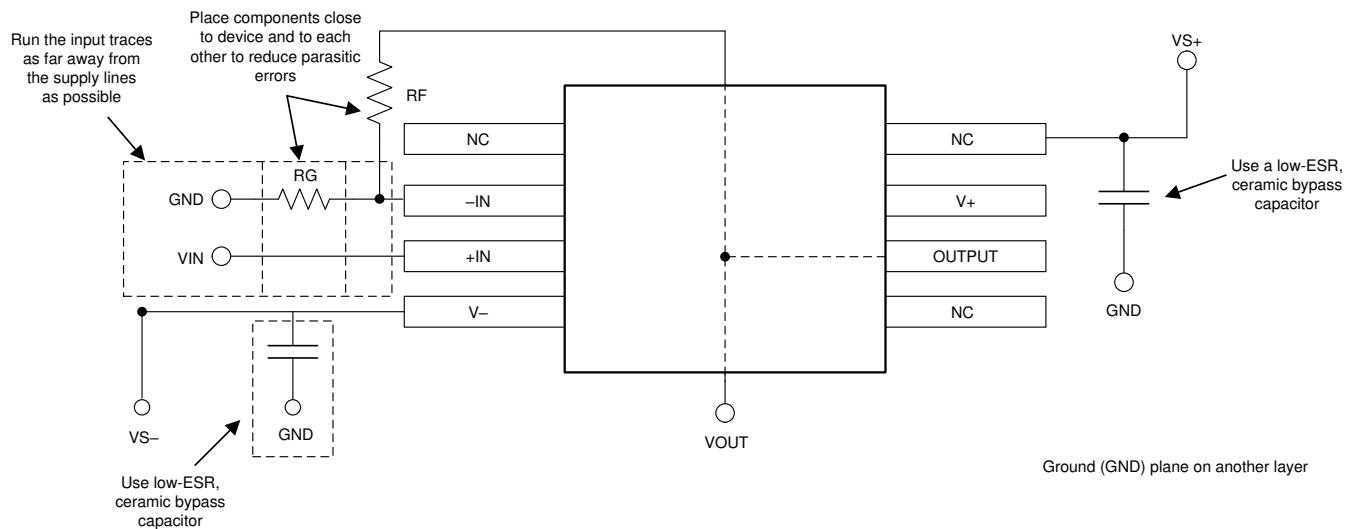

图 11-1. Operational Amplifier Board Layout for a Noninverting Configuration
- Place the external components as close to the device as possible. Figure 11-1 illustrates how keeping RF and RG close to the inverting input minimizes parasitic capacitance.